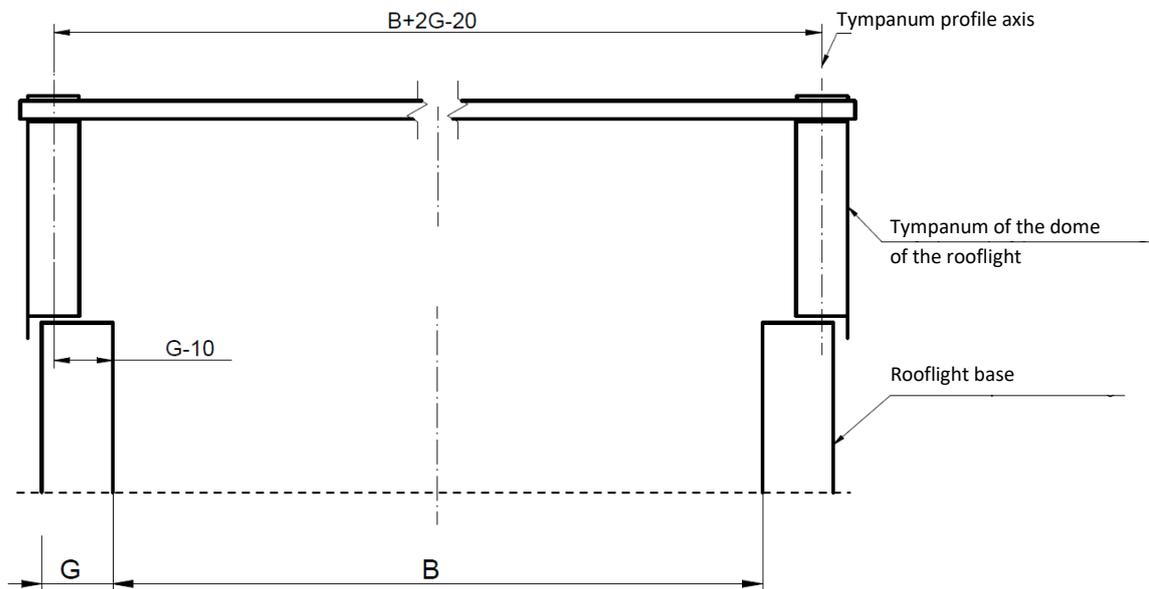

Figure 27 Arrangement of tympanum panels in relation to the rooflight base
3. Now place the assembled tympanum panel vertically on the tympanum base. Apply a PES gasket to seal a gap between the tympanum panel and the waterproofing layer, if less than 10 mm wide. Fix the tympanum panels to the base using self-drilling screws $\text{Ø}6.3 \times 32$ mm, fixed at 300 – 350 mm intervals, so that the deflection of the steel profile after tightening the screws does not exceed 3 mm at the base centre. Once the tympanum wall has been fixed to the base, the arch-shaped tympanum profile should be fixed to the longitudinal base piece and to the edge profile using self-drilling screws $\text{Ø}6.3 \times 32$. The tympanums on the opposite sides of the rooflight should be arranged as shown in (Figure 27 Arrangement of tympanum panels in relation to the rooflight base).